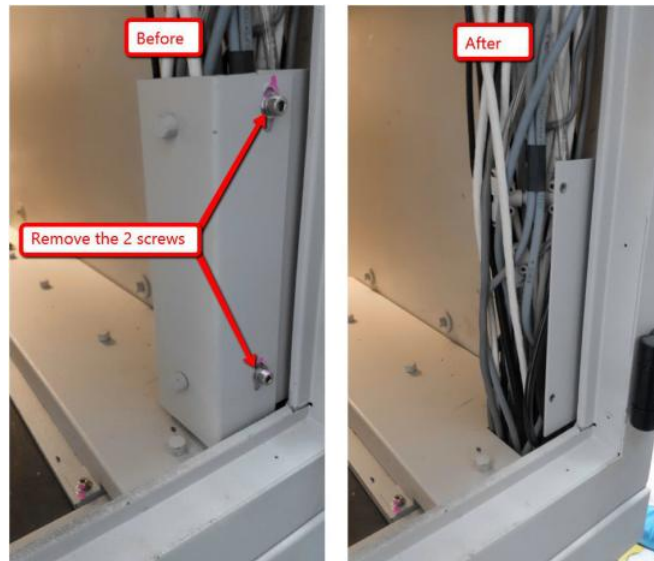

Figure 4 Lead Cover
4. Open 2x screws and remove the lead cover as shown in the Figure 4